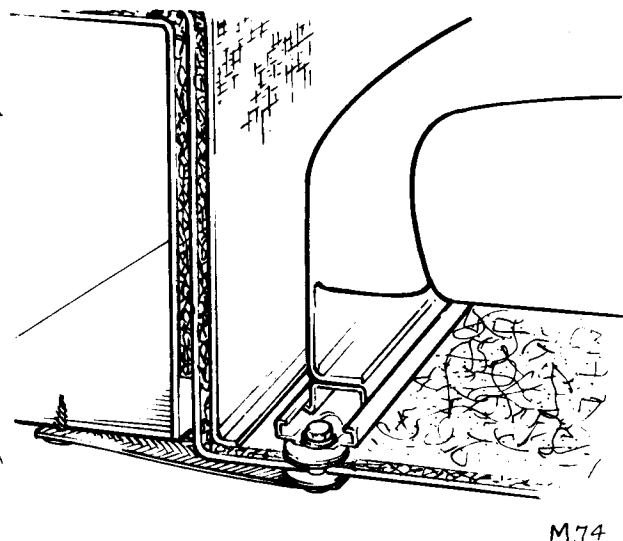

Fig. 7. SEAT EARTHING
- b. 15 cm.(6 in.) braid from each forward inner seat mounting bolt to chassis (see Fig. 7.)